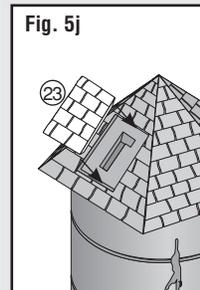

Fig. 5j
- Glue Load Door (23) to Silo Roof (Fig. 5j).